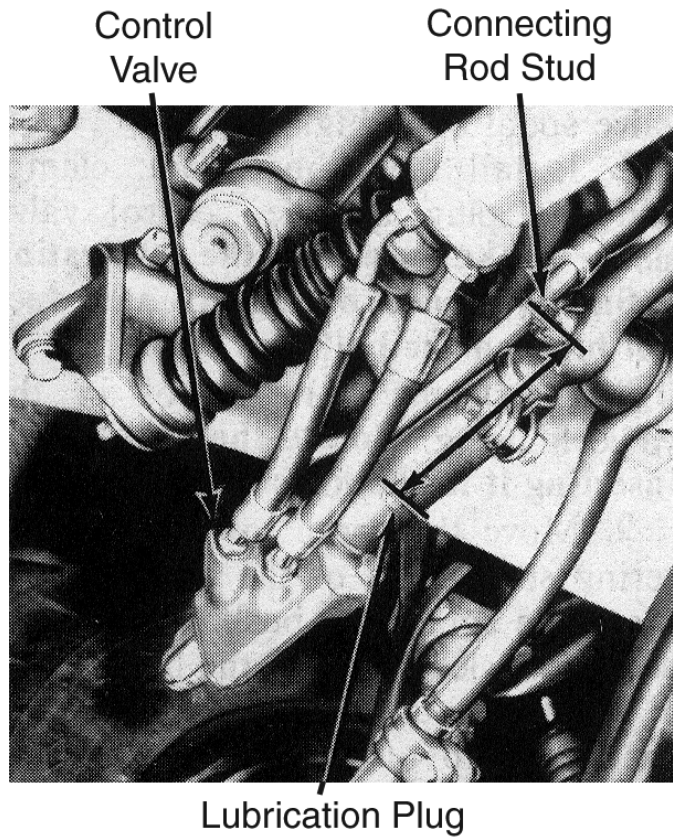

Figure 1
- c) Measure the distance between the center of the grease plug in the valve sleeve and the center of the stud at the inner end of the left spindle connecting rod. The distance should be  $5\frac{5}{8}$ " for Montego, Falcon, Maverick and Fairlane vehicles. The distance should be  $4\frac{7}{8}$ " for Mustang and Cougar models. Mark down the dimension so you can reference when installing. See figure 1.
- e) Remove the control valve ball stud cotter pin and nut. Remove the ball stud from the pitman arm. This may require a ball stud removal tool not included in this kit. See figure 1.